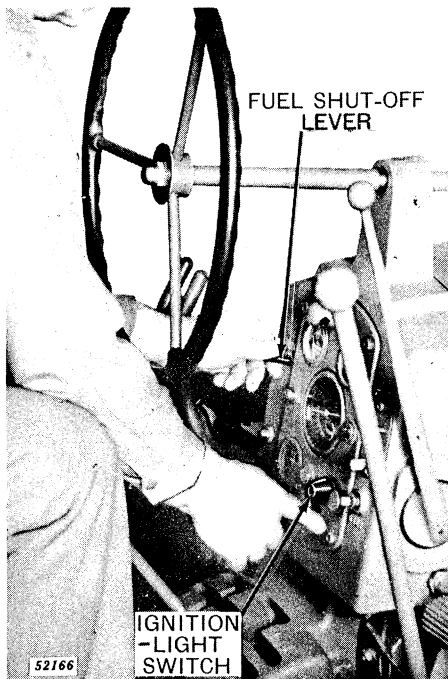

Figure 10-10-1—Operating Fuel Shut-Off Valve and Ignition Switch
- (1) Open cranking engine fuel shut-off valve two or three turns by turning the lever counter-clockwise (Figure 10-10-1).
- (2) See that cranking engine throttle lever is to the right in "Start" position.
- (3) Turn ignition switch to "I" position (Figure 10-10-1).